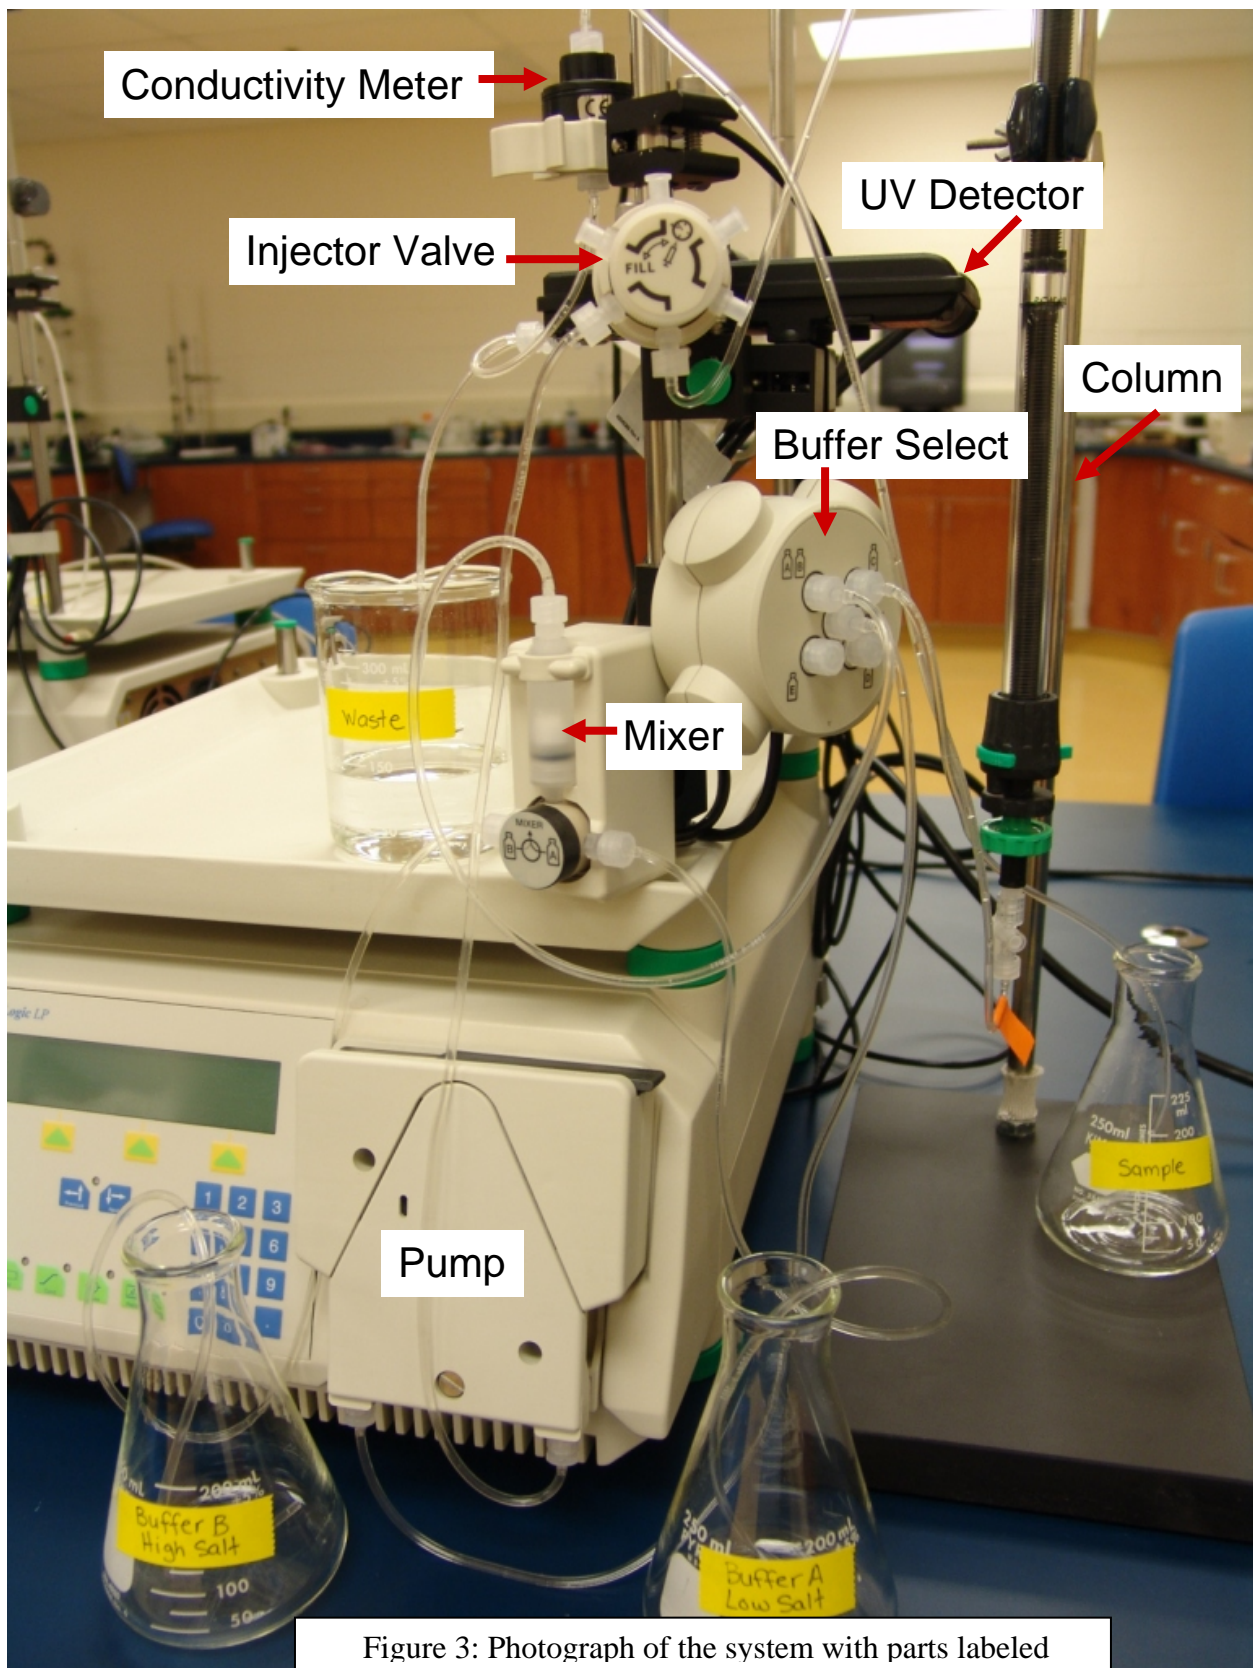

Figure 3: Photograph of the system with parts labeled
9.3. Figure 3: Photograph of the system with parts labeled